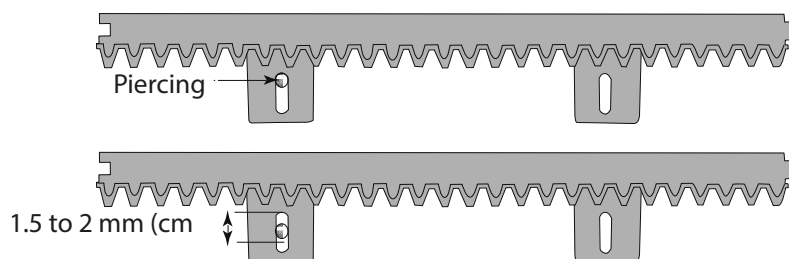

Figure 14
D) Fix your rack. To obtain the necessary gap between the wheel and the rack, raise the rack slightly in its fixation. You can thus obtain the desired gap between the star wheel of operator and the rack. (Figure 14)